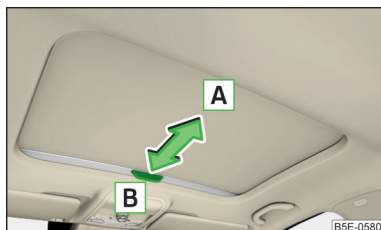

Fig. 45
- › To **open**, pull the handle in the direction of arrow **A** » Fig. 45.